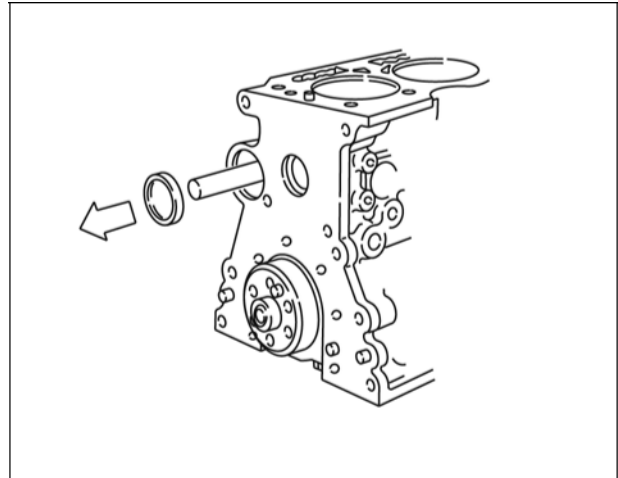

Figure 8
1. Remove rear camshaft plug (Figure 8).